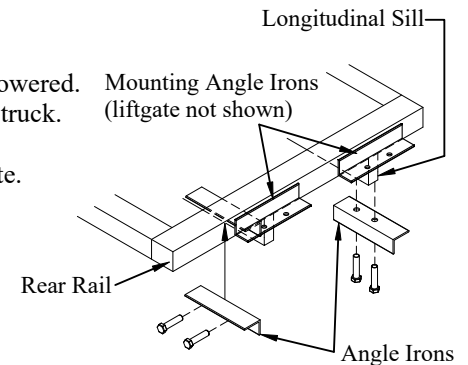

Figure 6: Possible angle iron positions.
- 2. Clamp** the (2) angle irons to the bottom or side of the longitudinal sills so they support the underside of the mounting angle irons (Figure 6).
- 3. Bolt or Weld** the angle irons to the longitudinal sills (Figure 6).